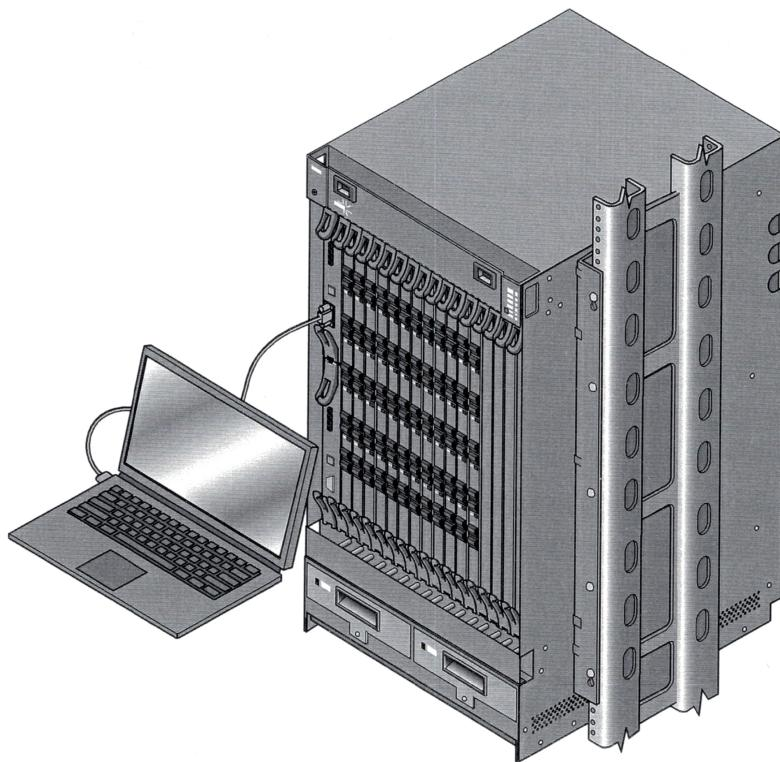

Figure 14 Plug the Craft Interface Into the RS-232 Craft Terminal on the Active NCC
2. Plug the other end of the serial cable into the RS-232 connector, labeled *Craft Term*, on the active NCC in the PLCS. See Figure 14.